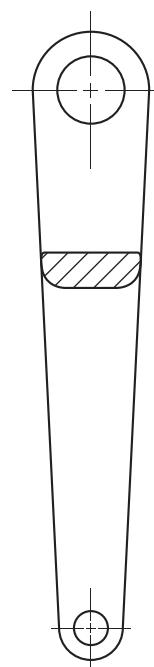

Figure 2
- (ii) State the type of sectional view shown in Figure 2.